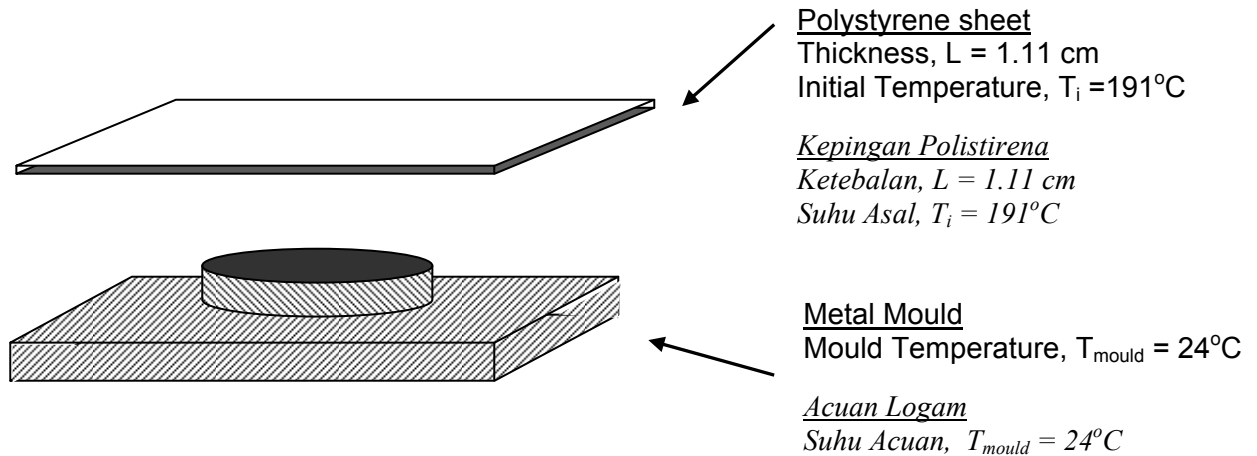

Figure 1: Schematic diagram for cold-press moulding of a polystyrene sheet
A polystyrene (PS) sheet is cooled by pressing against a metal mould as shown in Figure 1.